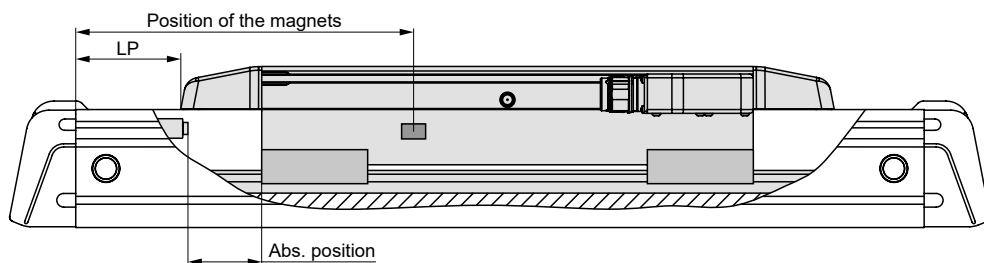

Figure 7: Position of the magnets on the CTL linear unit.
i The position of the magnets can be calculated using the absolute position or distance LP, see Figure 7 and Table 4.
STEP 3, CTL 145: Slide the HOM sensor holder with mounted magnetic field sensor to the desired position and tighten two screws. The position of the magnets can be found in Figure 7 and Table 4.
STEP 2, CTL 200 AND CTL 250: Slide the magnetic field sensor 1 to the desired position in the slot and tighten the clamping screw to secure it. The position of the magnets can be found in Figure 7 and Table 4.